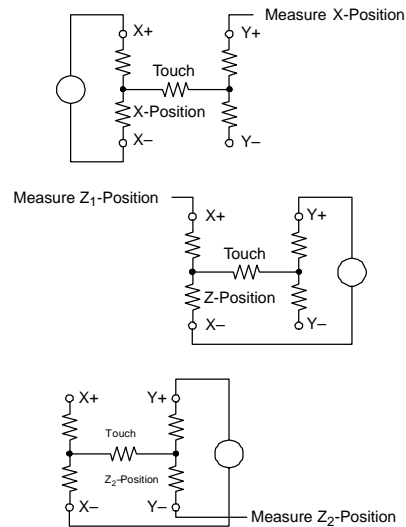

Figure 41. Pressure Measurement
Measuring touch pressure (Z) can also be done with the TSC2302. To determine pen or finger touch, the pressure of the *touch* needs to be determined. Generally, it is not necessary to have very high performance for this test, therefore, the 8-bit resolution mode is recommended (however, calculations are shown with the 12-bit resolution mode). There are several different ways of performing this measurement. The TSC2302 supports two methods. The first method requires knowing the X-plate resistance, measurement of the X-position, and two additional cross panel measurements (Z2 and Z1) of the touch screen (see Figure 41). Using Equation 1 calculates the touch resistance: